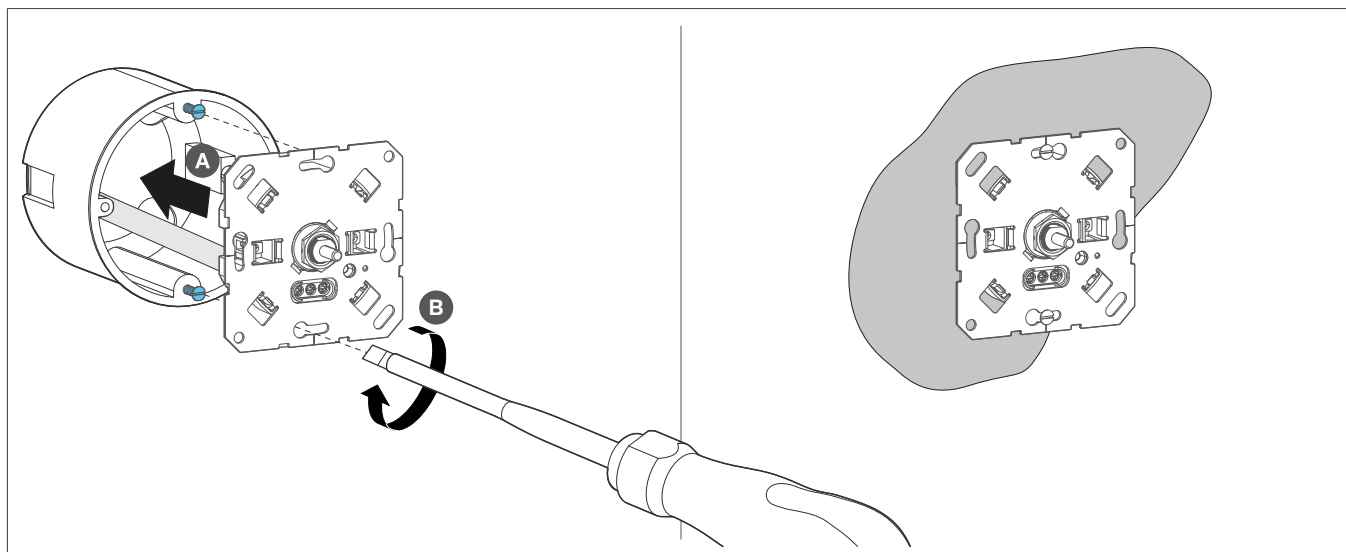

Fig. 6: Inserting and securing the dimmer
- 3 Insert the dimmer into the wall box (A) and secure it (B) with screws (Fig. 6).